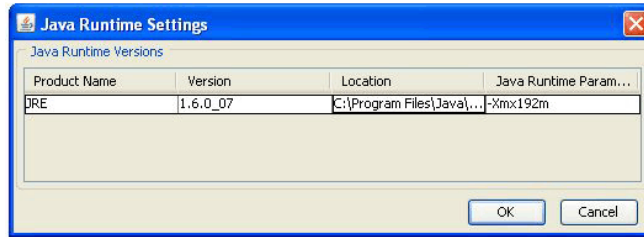

Figure 1-12: Java Runtime Settings Dialog Box
5. In the **Java Runtime Parameters** field, type **-Xmx192m** (see Figure 1-12).